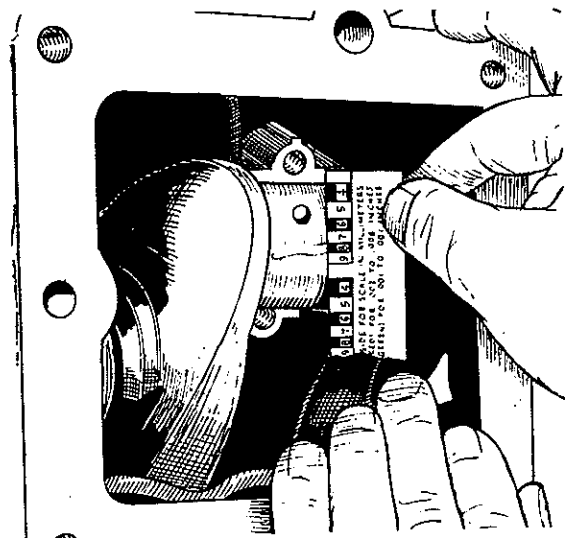

FIGURE 16-5. MEASURING BEARING CLEARANCE WITH PLASTIGAUGE
- Place a piece of correct size Plastigauge in the bearing cap the full width of the bearing insert about 1/4 inch off center (Figure 16-5).